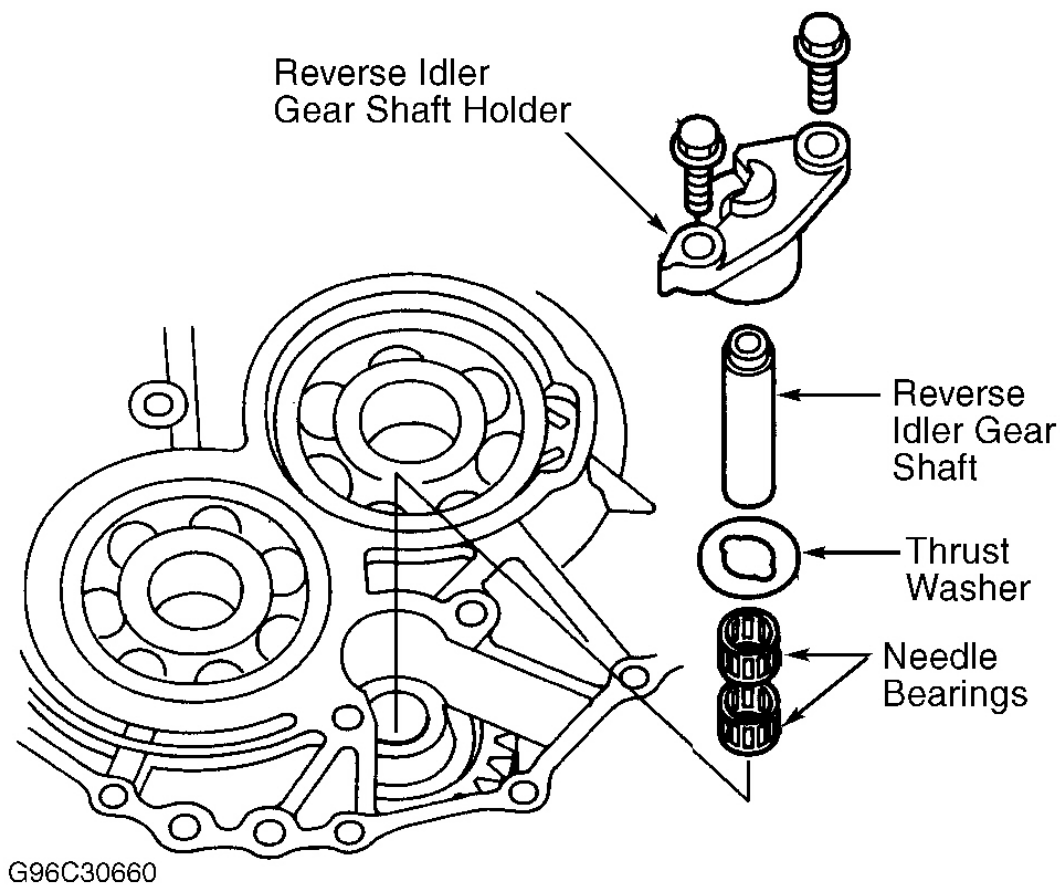

Fig. 9: Removing Reverse Idler Gear Shaft Holder
1. Remove bolts holding reverse idler gear shaft holder. See **Fig. 9**. Remove reverse idler gear shaft holder, shaft and washer. Remove transaxle housing mounting bolts, transaxle hangers and bracket.